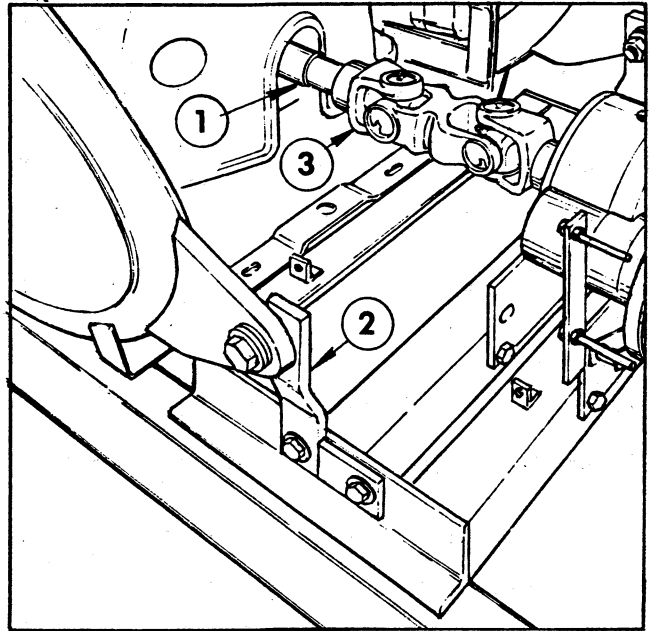

Figure 4
2. Align the Spreader in-put shaft with the End Yoke and slide the Spreader Assembly forward until the End Yoke is fully engaged on the in-put shaft. DO NOT TIGHTEN the set screw at this time. See Figure 4.